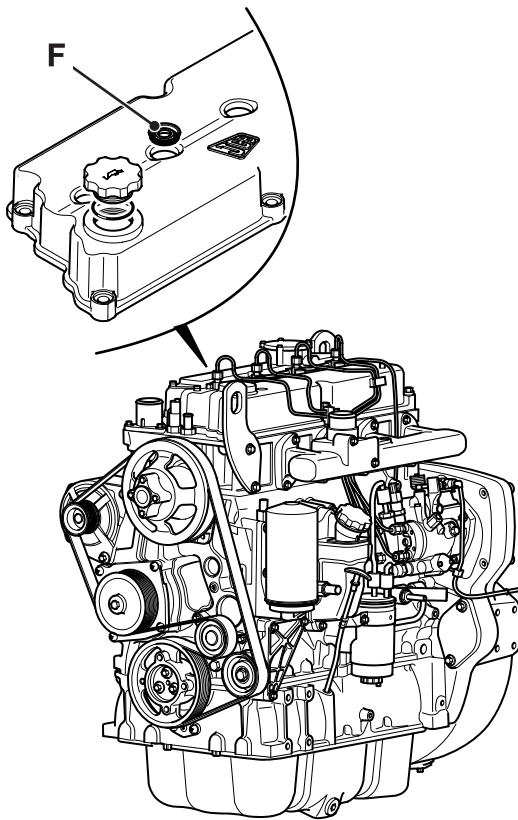

Fig 3.
- b Do not aim the jet wash directly at the fuel injector seals **F**. ⇒ Fig 3. \(□ 3-29\).